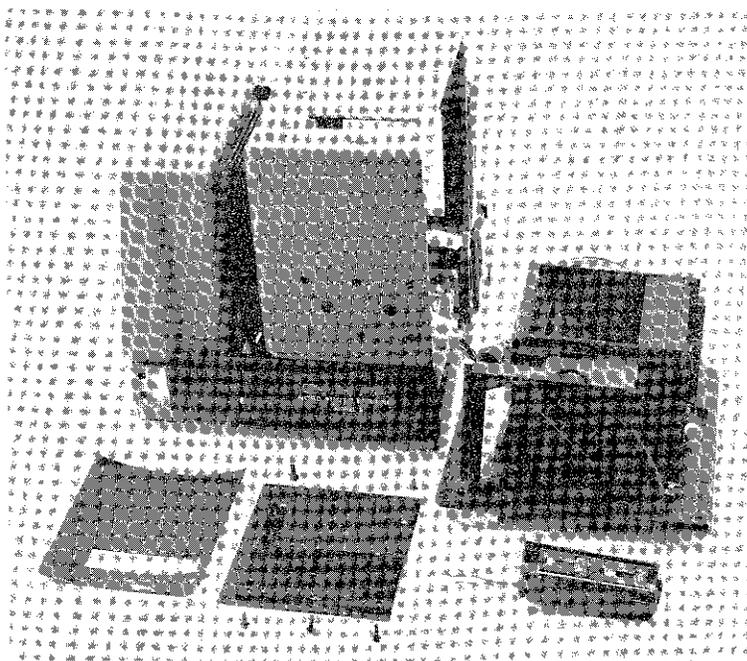

Fig. 1
- c. Insert the five screws shipped loose with the attachment (see Fig.1 for screw placement) and tighten just enough so as to make it snug.